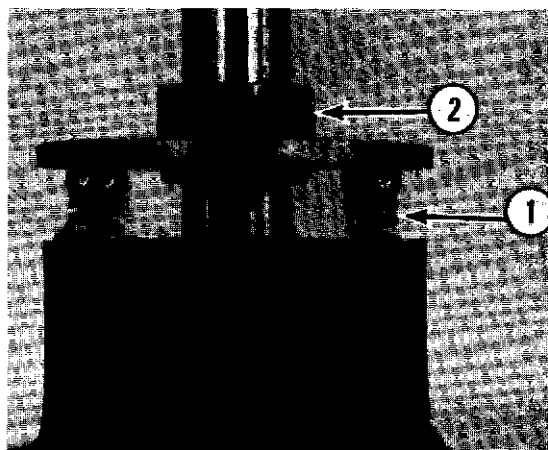

Fig. 11-17
- C. Place the springs in the holes and place the detent balls on the springs (1, Fig. 11-17).
- D. Install the cam assembly (2, Fig. 11-17) and secure with the rollpin.